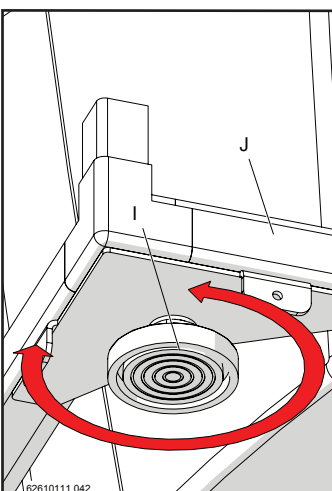
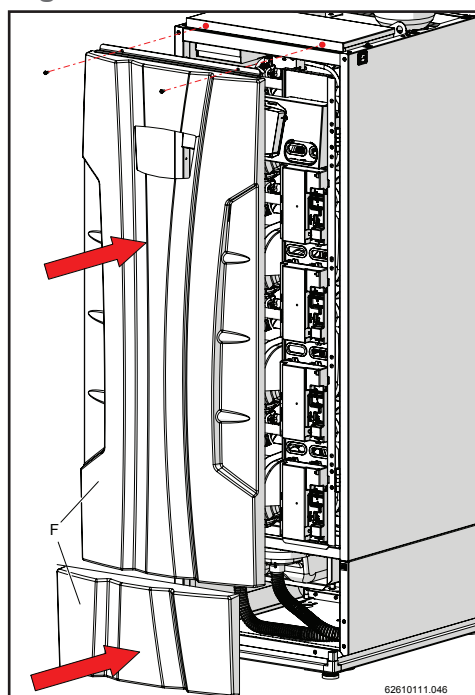

Figure 15-39
Figure 15-38
- 4.- Replace the boiler's upper and lower front covers "F" (figure 15-38). Then adjust the adjustable feet "I" of the lower framework "J" to regulate the boiler's stability on the surface it is installed on (figure 15-39).